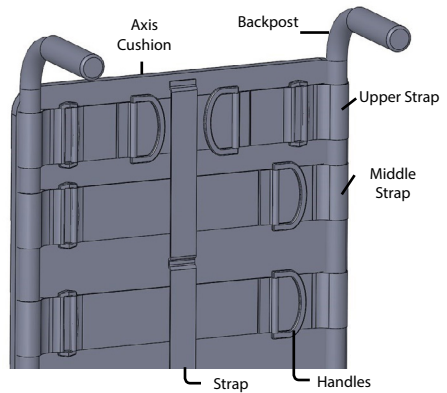

Figure 2
- 1) Insert the straps under the loops behind the standard or kyphosis cushion. (Figure 2) The top strap is built with a central elastic part.
- 3) Press the cushion on the backposts so that the velcro strips link up. Pull up the handles to adjust strap tension. (Figure 2)